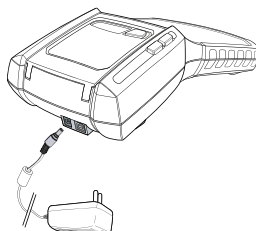

Figure 2
1. Plug the power adapter into the power connector on the top of the printer. See Figure 2.